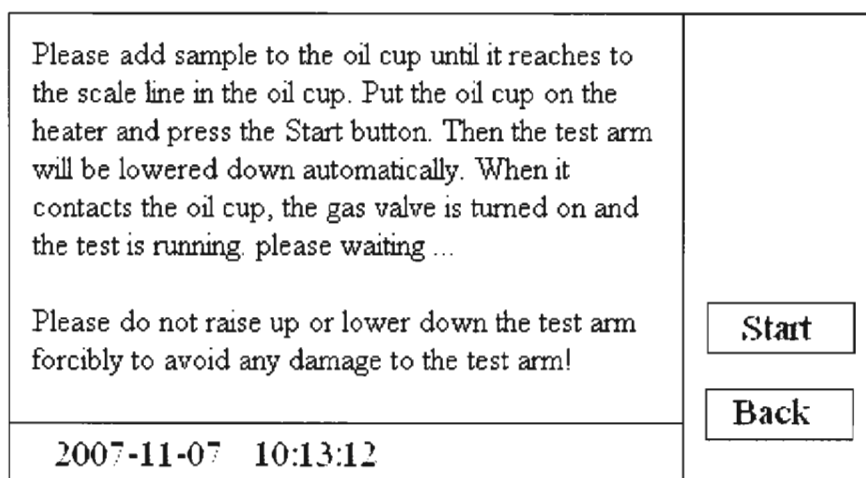
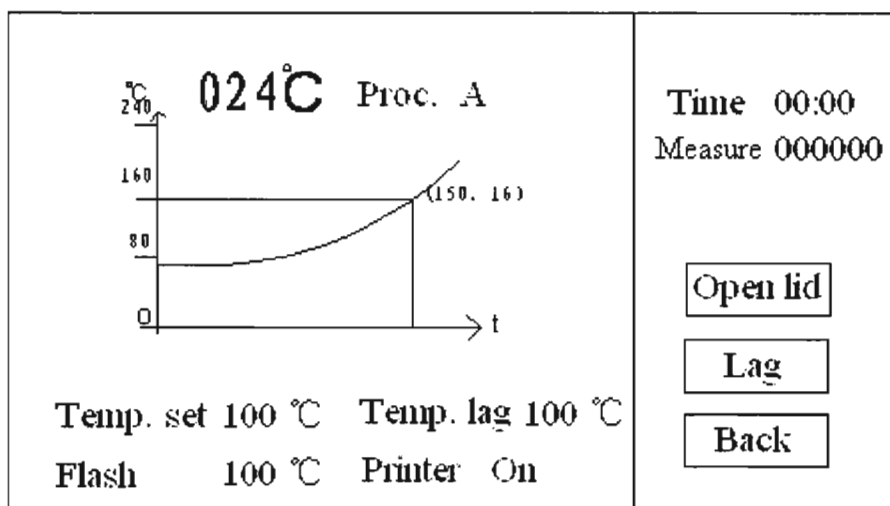

Fig.7
Fig.8
Press the Test button and it will show prompt interface (see Fig.7). Fill sample into a clean and dry test cup and put them on the heater. Press the Start button, and then the test arm will lower down automatically. The instrument connects gas source, and it starts timing. The working interface is shown as Fig.8.
(5) Press the Back button to the main interface after parameter preset. Press the Test button to the interface shown as Fig.7. Press the Start button and the test arm will lower down automatically. The instrument will enter into the working interface. The current sample temperature will be shown on the interface and it will enter into temperature controlling state. There are two working states, procedure A and procedure B. Please refer to GB/T261-2008 for more details.
(6) Ignite the pilot flame and the flame application device. Adjust the flame height to 3 ~ 4 mm. The instrument will enter into automatic measurement state. Then the indication light of printer is on, and the sample temperature and test time will be shown on the instrument. The whole test procedures are in accord with the requirements of GB/T261-2008.
(7) Move cursor to the Open lid button and press the Enter button during automatic measurement procedures, then the lid will open and the flame will be applied to the sample once. You can check the flash point using this method at any time before automatic flame application to check whether the preset temperature is proper.